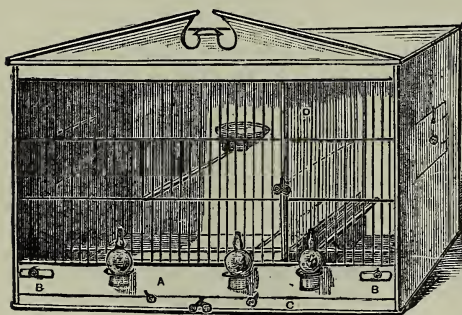

Fig. 2.
I have already said that the wood a cage is made of is a matter of secondary importance. The body may be pine, for instance, and the front parts any kind of ordinary hard wood—mahogany to wit. The cage (Fig. 2) which is now before us is one of the German kind, manufactured by Mr. Abrahams, naturalist,
have already done get firm and dry before doing much more to it. Meanwhile measure and make the piece of hard wood that crosses the cage in front just above the bottom drawer (Fig. 2, A). This should be from two to two and a half inches wide, and an oblong space or opening (B B) is to be left at each end. These are for the little seed-tins to fit in. As soon as you have made this piece of wood (A) and dressed it most neatly, you may place it in position. This must be most carefully done, leaving a full inch of space beneath it for your bottom drawer or false bottom. Nail it from the sides.
You can now proceed to make this false bottom, taking great care that the front part, which is of hard wood (Fig. 2, C), fits the space you left for it exactly, and without a flaw. The mechanism of this false bottom is so simple that instead of describing it or illustrating it, I beg to refer you to your friend Smith's cage. A glance will suffice. But remember not to spare the glue on that either.
Well, a glance at the complete cage (Fig. 2) will show you that there is a wire partition at D dividing the cage into two compartments, a big and a small. This partition, however, does not go right to the bottom of the cage, because it is a sliding one and draws out. It runs at top and bottom in grooves made by three pieces of wood, one of the pieces of the lower groove being deeper than the others,
Now for the front. This is to be made separately, and then slipped in. There is another plan, but I think I give the better of the two. Glance again at Fig. 2. Take a look at friend Smith's cage as well. Now scratch your elbow thoughtfully, gather all your scattered senses together, and all your brains, and proceed to business. There is a top bar and a lower bar, and two strong cross wires; but mark this, please—these cross wires are not continuous all the way, there must be a space left for your wire partition to slip out and in.
Well, you have your wires all ready. Measure the length you want them, and cut them all of a size a little longer than they are actually required. They have to pass right through the upper bar (Fig. 2), and be fastened into the lower (Fig. 2), and as the same space—namely, half an inch—must exist between each wire, before you bore the holes for them you must carefully mark the places on both bars, and this is done either with a pair of compasses, or more surely and securely with the prongs of a two-toed fork. While making or wiring the front, be sure first that the top and bottom bars are exactly the same length, then lay them fair and square on your bench or table, and tack them down with small nails: so shall you do your work firmly and well. Bore the holes very even which you have marked off, then put each wire through separately and snip off with your pliers what is not wanted. The wires, by means of your hand-vice, should previously be made as straight as possible. When you have got all your upright wires in put on your cross pieces. These are simply laid on over the others and whipped in position with a long thread of very fine wire.